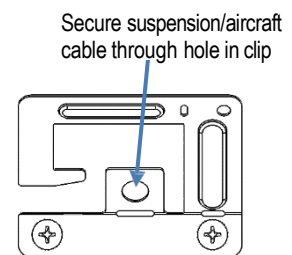

FIG. 11: SUSPENSION MOUNING
- Use hanger wire holes at all 4 corners and appropriately rated hanging cables (not included) to suspend fixture. See figure 11.